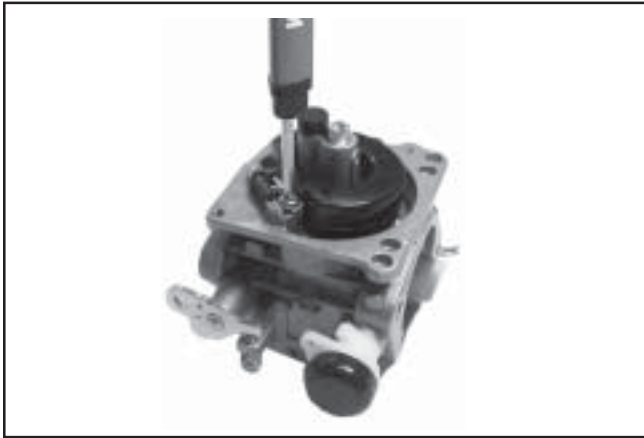

Figure 5-13. Float and Inlet Needle.
4. Attach the inlet needle to the metal tang of the float with the wire clip. The formed 90° lip of the metal tang should point up, with the needle valve hanging down. See Figure 5-13.